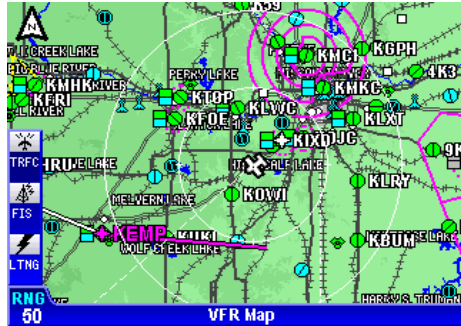

Figure 1-150
6. Press the **ACTIVATE** Softkey to start navigating the OBS Course. The selected course will be displayed as the active portion of the flight plan as seen in Figure 1-150.
If it becomes necessary to cancel the selected OBS Course in an active flight plan (as seen in Figure 1-150), perform the following steps: